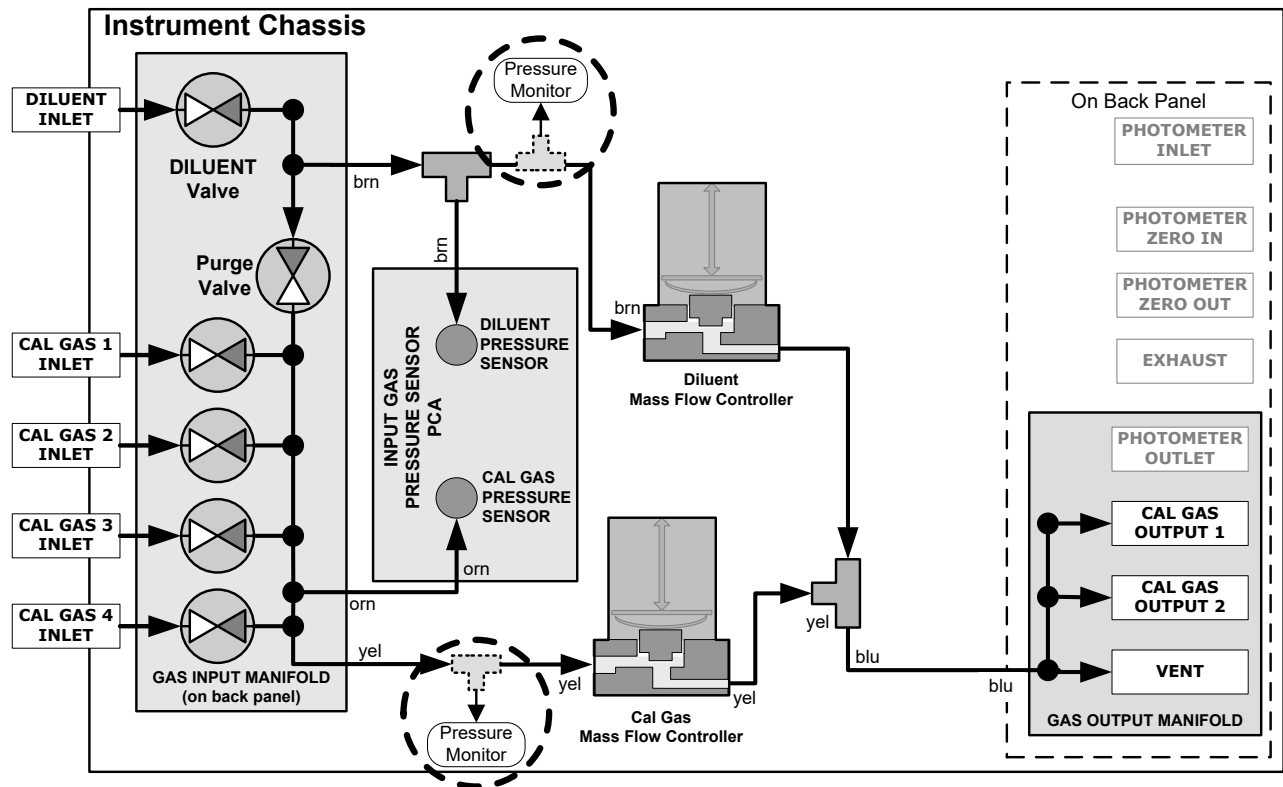
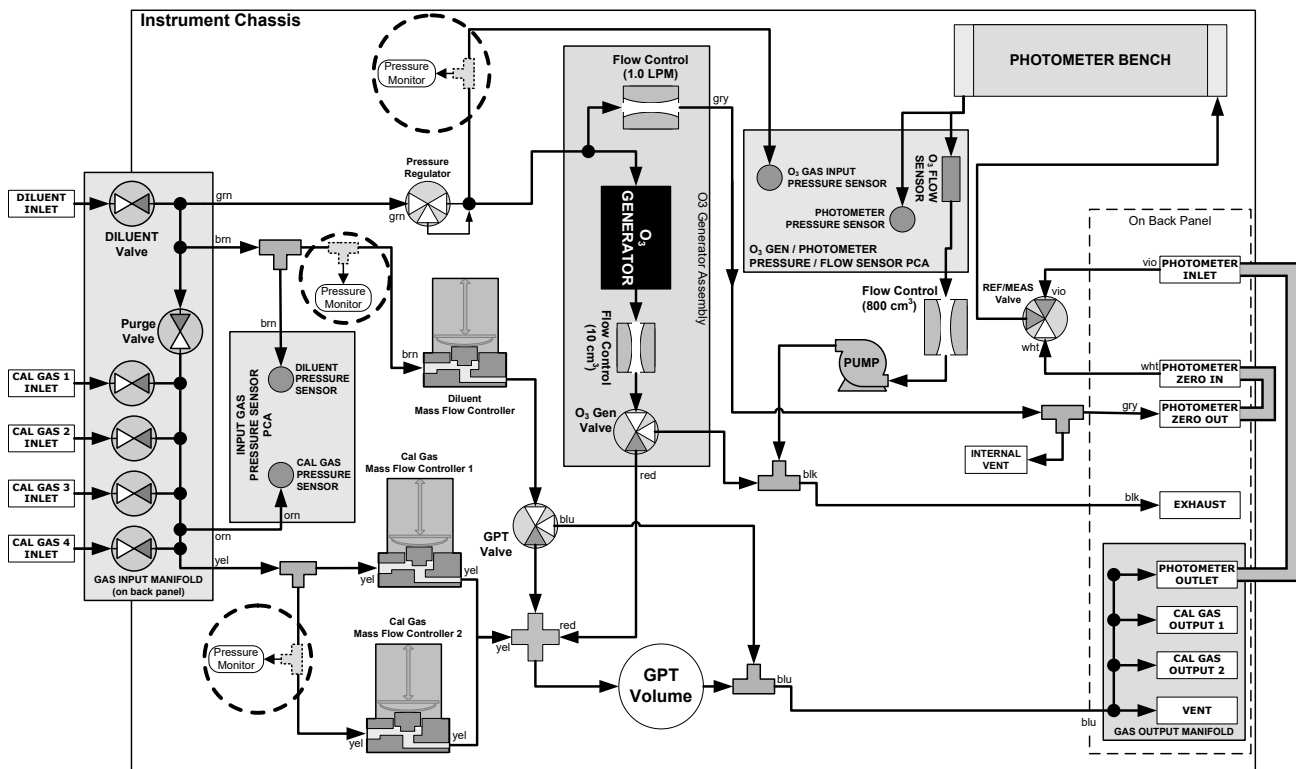

Figure 5-11. Pressure Monitor Points in Basic Unit
Figure 5-12. Pressure Monitor Points with O₃ Options and Multiple Cal MFCs Installed
2. For the sensor being calibrated, insert a “T” pneumatic connector and pressure monitor at the location described in Table 5-2 and shown in Figure 5-11 and Figure 5-12.